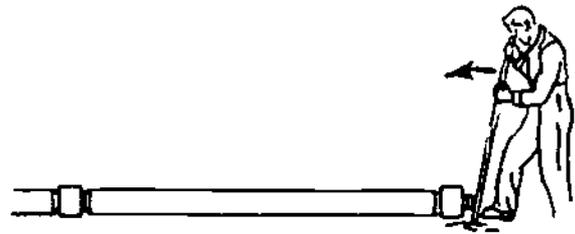

Figure 5-3. Bar-and-Wood Lever for Pipe Assembly
i) The bar-and-wood lever method of assembly is depicted in Figure 5-3. (See Figure 5-3.)